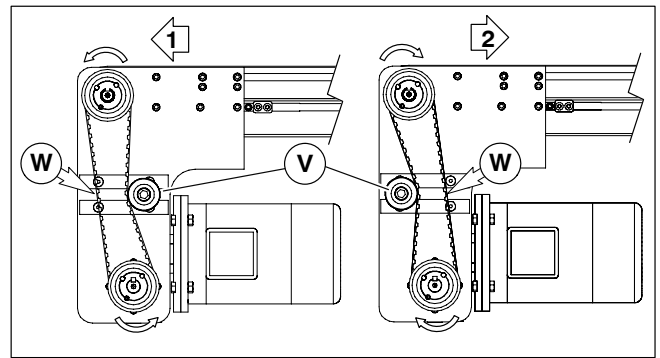

Figure 10
- Depending on conveyor belt travel (direction 1 or 2), locate timing belt tensioner (V of Figure 10) as shown. Tension timing belt to obtain 1/8" (3 mm) deflection for 6 lb (3 Kg) of force at timing belt mid-point (W). Tighten tensioner screw to 110 in-lb (12 Nm).
3. Depending on conveyor belt travel (direction 1 or 2), locate timing belt tensioner (V of Figure 10) as shown. Tension timing belt to obtain 1/8" (3 mm) deflection for 6 lb (3 Kg) of force at timing belt mid-point (W). Tighten tensioner screw to 110 in-lb (12 Nm).
5. Depending on conveyor belt travel (direction 1 or 2), locate timing belt tensioner (V of Figure 10) as shown. Tension timing belt to obtain 1/8" (3 mm) deflection for 6 lb (3 Kg) of force at timing belt mid-point (W). Tighten tensioner screw to 110 in-lb (12 Nm).